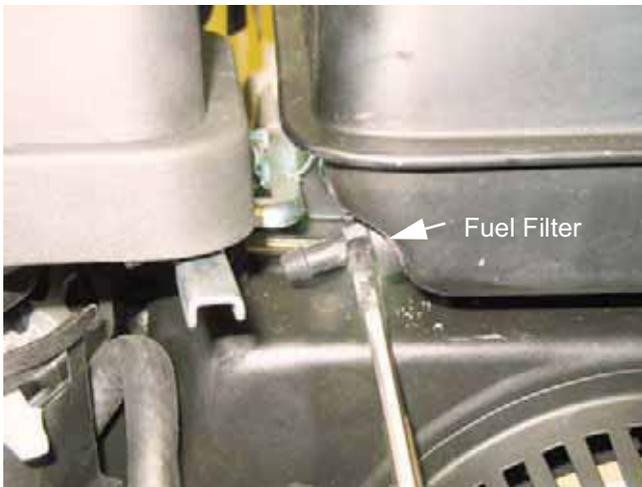

Figure 4.5
4. Remove the fuel tank nipple using a 12 mm wrench. See Figure 4.5.